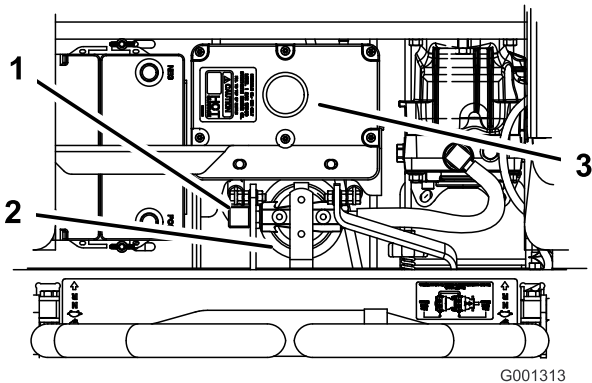

Figure 71
- Remove the righthand hydraulic line that comes into the adapter (Figure 71).
- Install the righthand hydraulic line to the adapter (Figure 71).